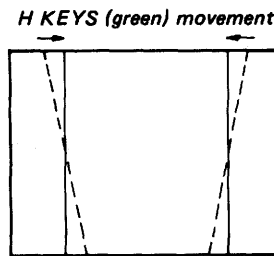

Figure 5
- 7) Adjust RV22 (MAIN H KEYS) and RV29 (MAIN H PIN) so that the vertical lines at the edges of the crosshatch pattern are vertical as shown in Figure 5